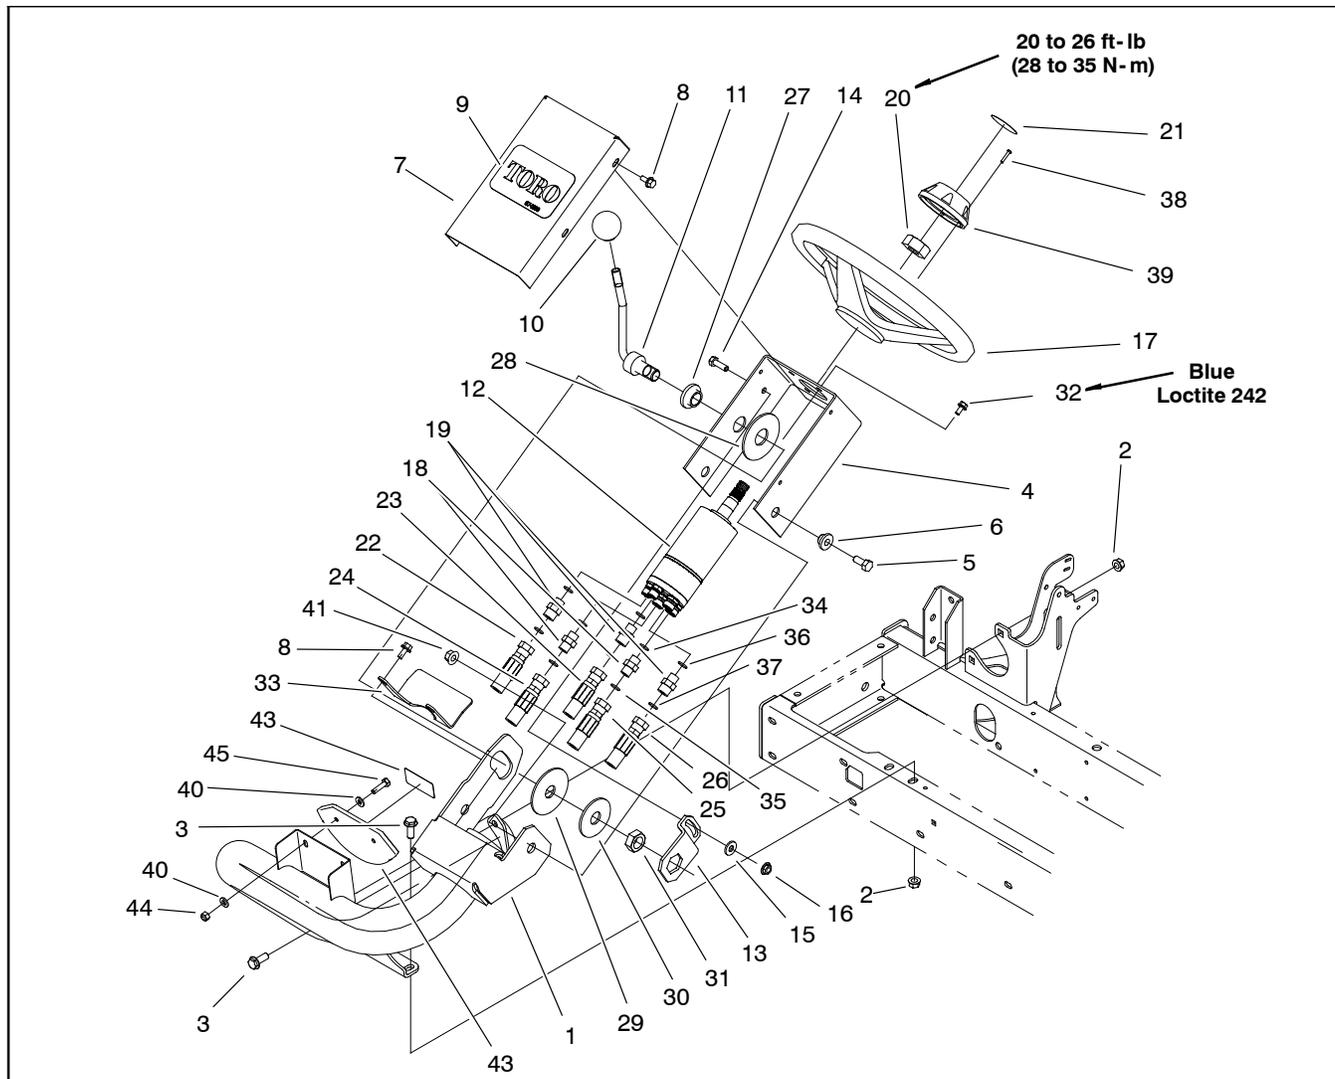

Figure 16
7. Remove and replace parts as necessary to repair steering column (Fig. 16 and 17).
1. Make sure lever and friction discs are properly assembled to the steering control valve bracket (Fig. 16 and 17).